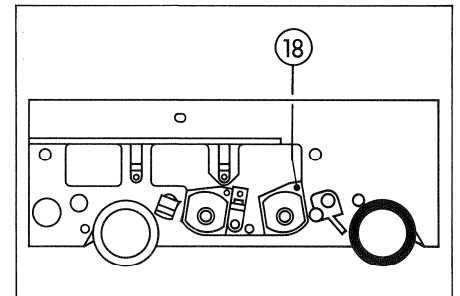

Fig. 5.31
2. Turn SAFE-READY switch (63) to SAFE.
3. Turn MONITOR switch (64) to REPRODUCE.
4. Turn TERMINATION switch (65) to ON.
5. Connect audio-frequency millivoltmeter to line output (16).
7. Adjust azimuth to obtain maximum level by turning azimuth adjustment screw (18) (see Fig. 5.31).
| 5. Wiedergabekopf mittels Spaltjustierschraube (18) Fig. 5.31 auf geringste Phasenwinkeldifferenz einstellen.                                | 5. Adjust azimuth setting by turning adjustment screw (18) Fig. 5.31 to obtain minimal phase angle difference.                            |